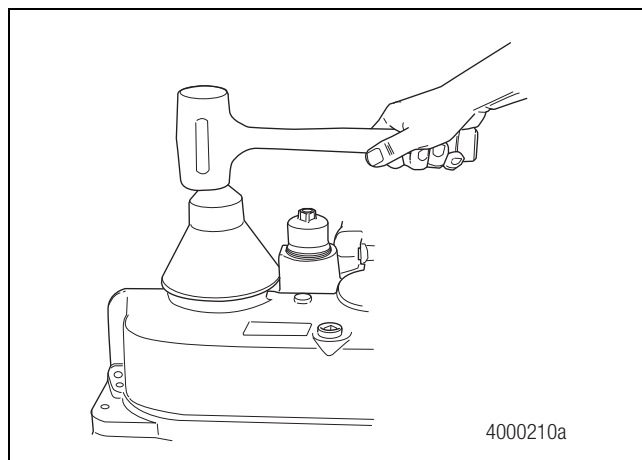

Figure 6.39
1. Install the front output shaft oil seal using the appropriate seal driver. Drive the seal until it is fully seated. Figure 6.39.